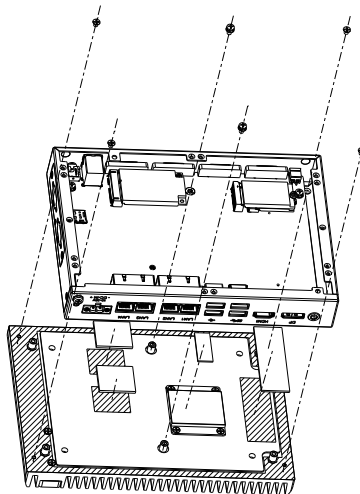

Figure 3-1-2
2. Remove the two M3x6 spring screws in the middle of the motherboard and the four M3x4 screws in the four corners of the chassis, and remove the top cover (aluminum extrusion); as shown in Figure 3-1-2.